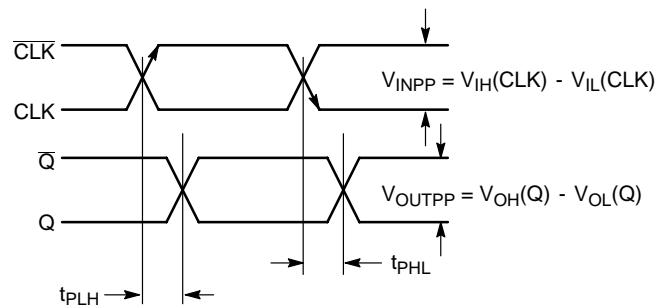

Figure 14. AC Reference Measurement
28. See Figure 14. $t_{SKew} = |t_{PLH} - t_{PHL}|$ for a nominal 50% differential clock input waveform.
32. See Figure 14. $t_{SKEW} = |t_{PLH} - t_{PHL}|$ for a nominal 50% differential clock input waveform.